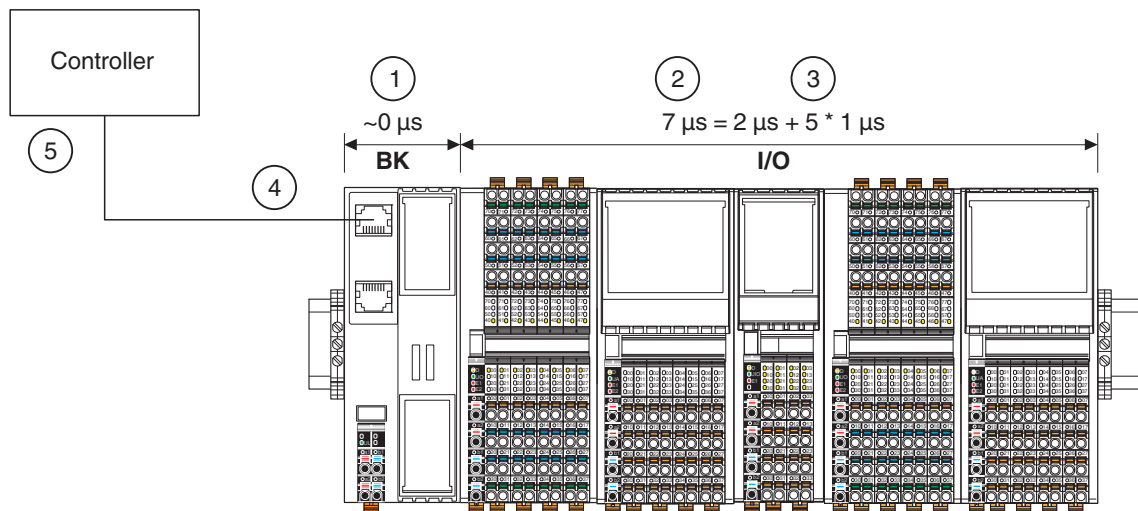

Figure A-1 Response times of the overall system
- The time for copying to the bus heads (bus coupler or controller; 1 in Figure A-1)
- The cycle time of the local bus (2)
- The conversion time in the I/O modules (3)
- The update time of the higher-level network (4)
- The processing time (cycle time) in the controller (5)